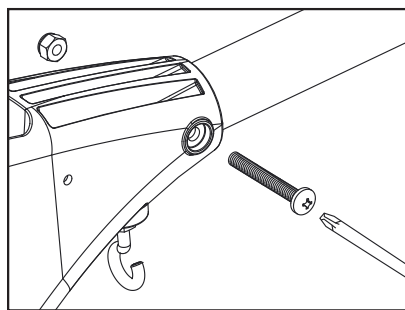
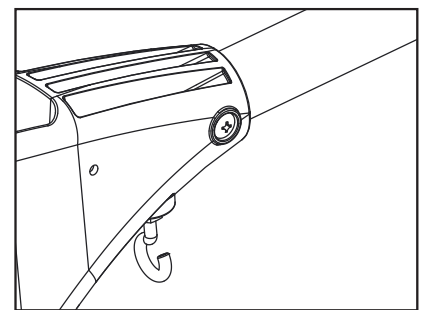

Figure 2
Figure 3
2. Remove 1/4"-20 x 2" bolt and 1/4"-20 nylon locknut from included hardware bag assembly and insert the locknut into the hex pocket on the nose of the frame. Insert 1/4"-20 x 2" bolt into reel side of frame nose. (Figure 2)
3. With a Phillips head screw driver, thread bolt into nylon locknut from step 2 (Figure 2). Tighten bolt until the end of the bolt is flush with the top of the nut. (Figure 3)